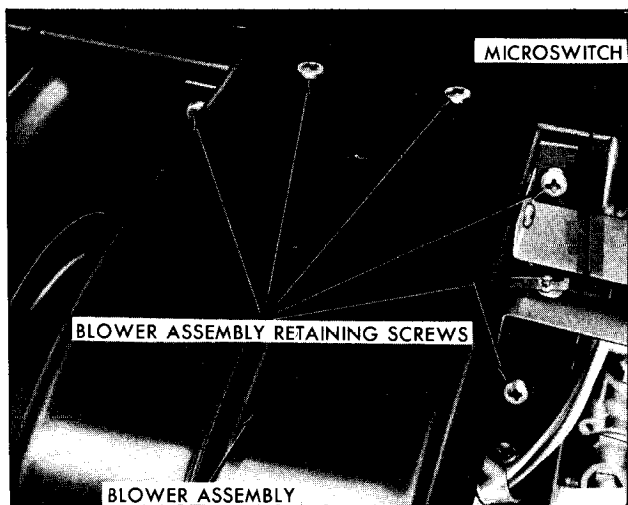

Figure 24-Blower Assembly Mounting Screws
4. Remove five screws holding blower assembly to furnace (figure 24).
9. Install the five screws holding blower assembly to the furnace shown in Figure 24.